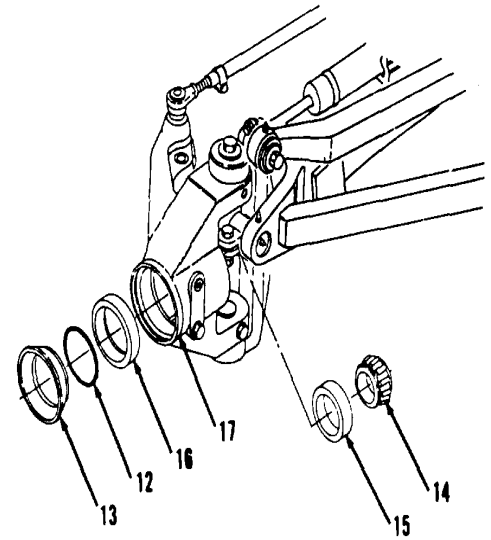
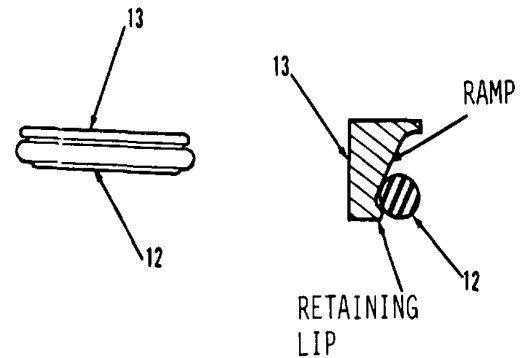

Figure 5-87.
Figure 5-88.
11. Remove and separate ring (12) and seal (13) from housing (17, Figure 5-87).
1. Lower temperatures of bearings (16 and 15) to aid in installation and install into housing (17, Figure 5-87).
2. Heat bearing (14) to 275 degrees F and install into housing (17).
3. Install seal (13) on ring (12, Figure 5-88). Make sure seal (13) is not twisted and is properly seated on bottom of ramp of ring (12) and against retaining lip.